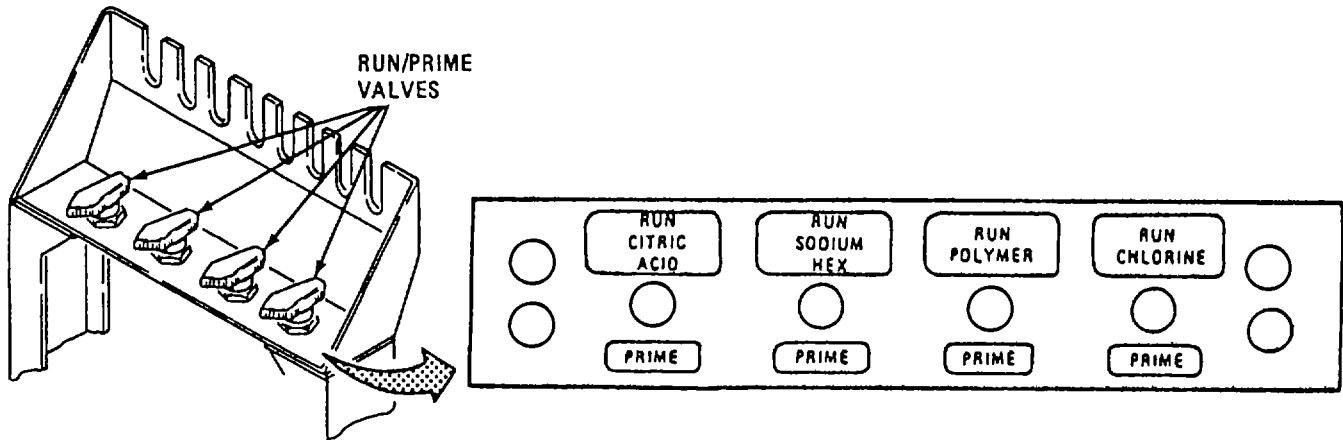

Figure 2-50. Chemical Feed Run/Prime Valves.
h. Chemical Feed Run/Prime Valves. Refer to figure 2-50. Ensure all valves are set to PRIME.